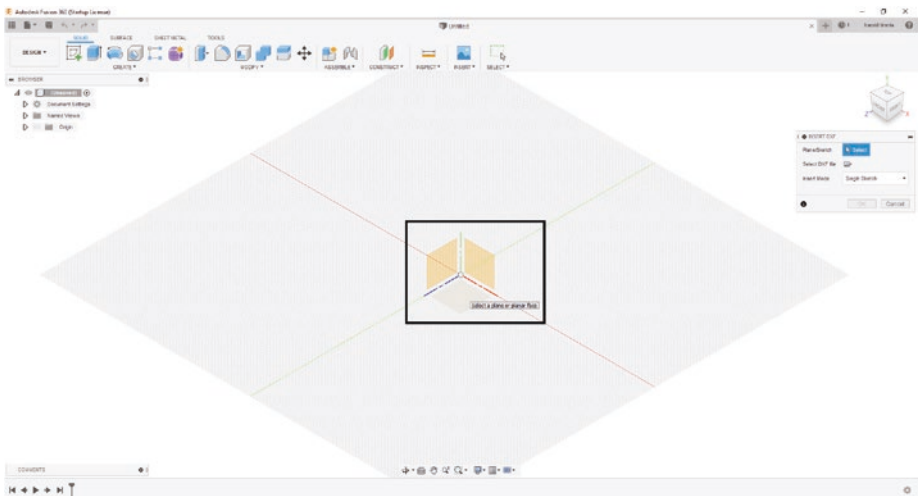

Figure 3-28. Select the plane that the DXF will display on
4. Select the plane/sketch that you want the DXF image to be placed on to. See Figure 3-28.